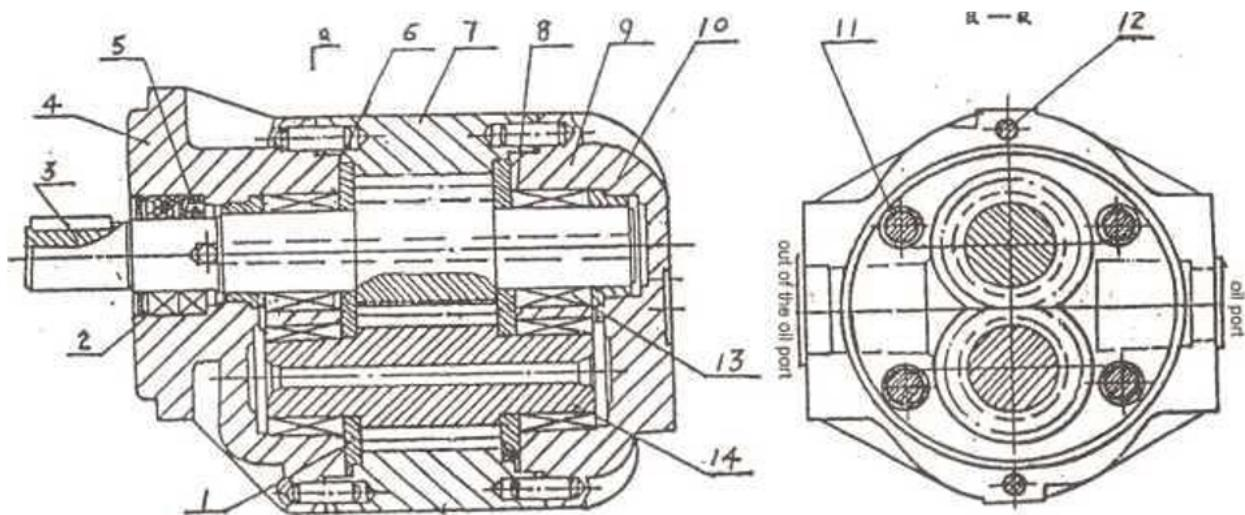

Figure 2-15: Illustration for Gear Pump Structure
3) Gear pump (Figure 2-15): the working device's hydraulic system and the steering hydraulic system share one common gear pump, with the operating pressure as 16 Mpa and flow as 40ml/r.